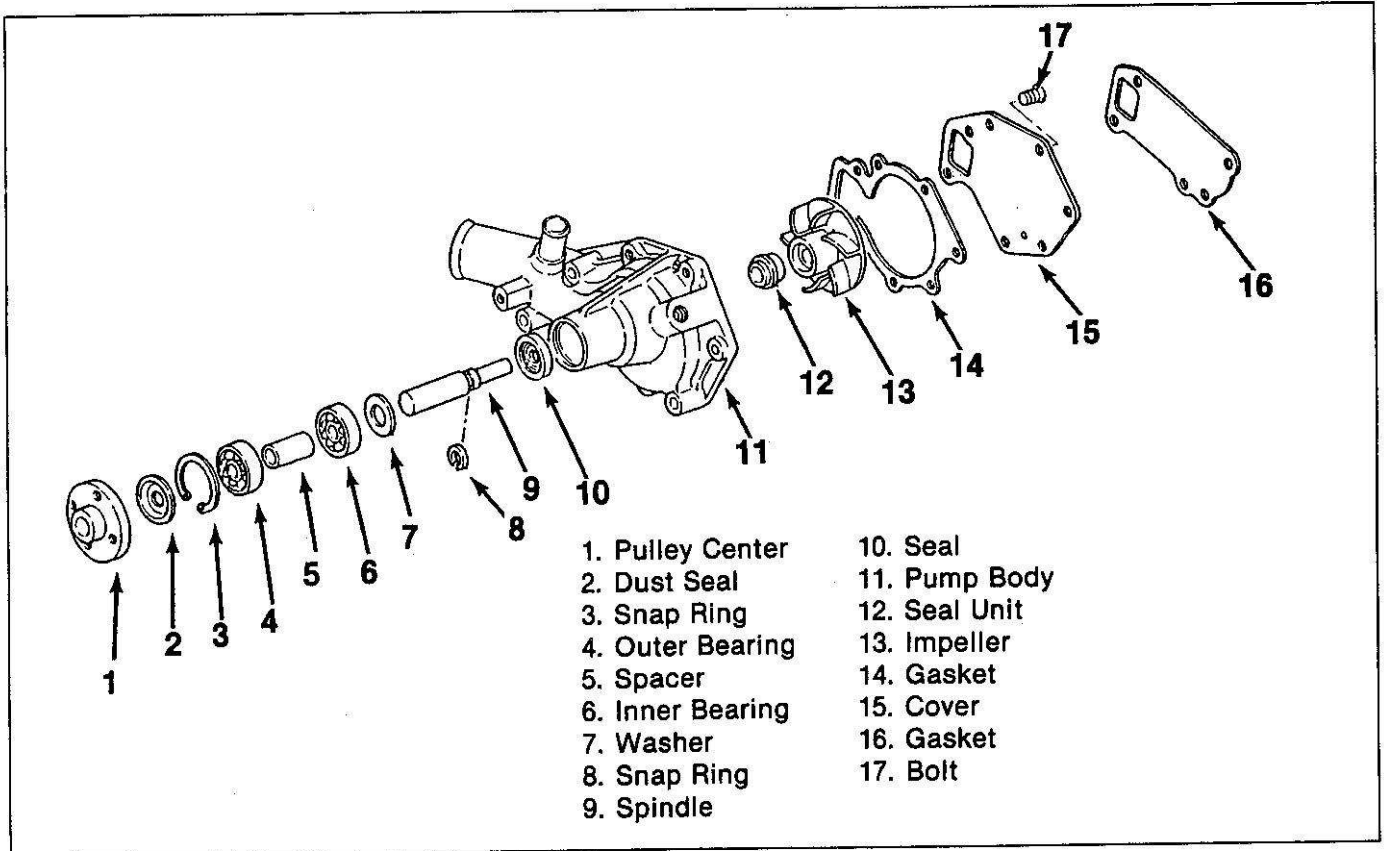

Figure 8. Water pump Components
**✚ Assemble (Figures 8, 15-18)**